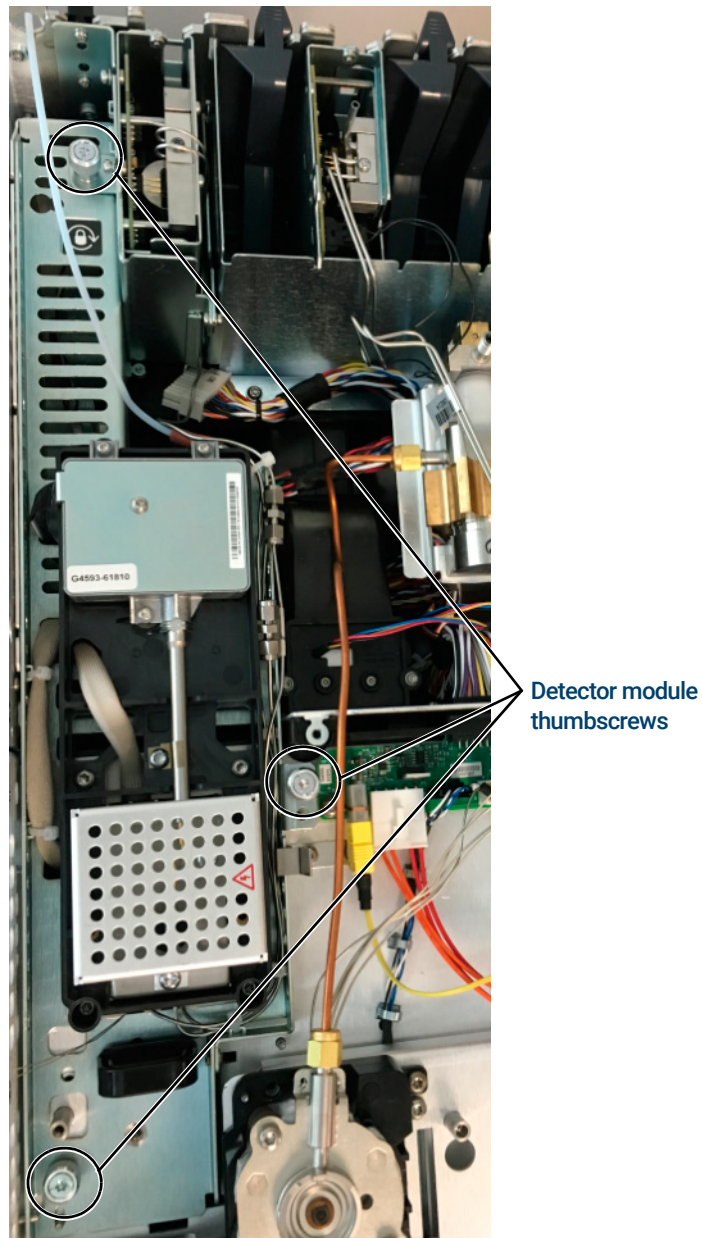

Figure 11. Detector module thumbscrews
- 9 Completely loosen the three thumbscrews securing the detector module assembly. See Figure 11.